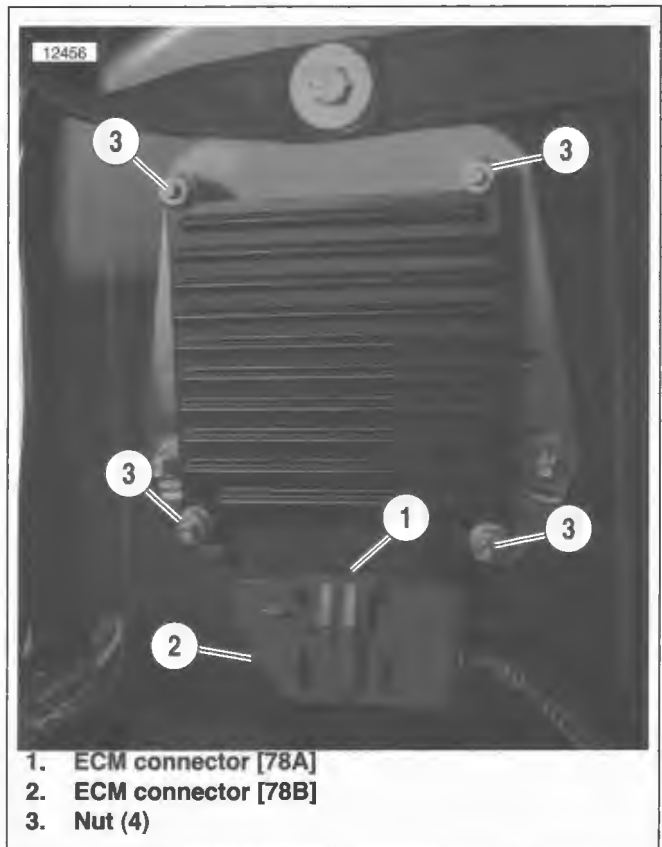

Figure 8-4. ECM Mount: FXST/FXSTB/FXSTC/FXSTD/FLSTF
- b. For FXST/FXSTB/FXSTC/FXSTD/FLSTF, see Figure 8-4. Remove four nuts and washers holding ECM to mounting bracket. Depress latch on connector [78] and disconnect from ECM.
- b. For FXST/FXSTB/FXSTC/FXSTD/FLSTF, see Figure 8-4. Install four nuts and washers that secure ECM to mounting bracket. Tighten to 30-35 **in-lbs** (3.4-4.0 Nm).